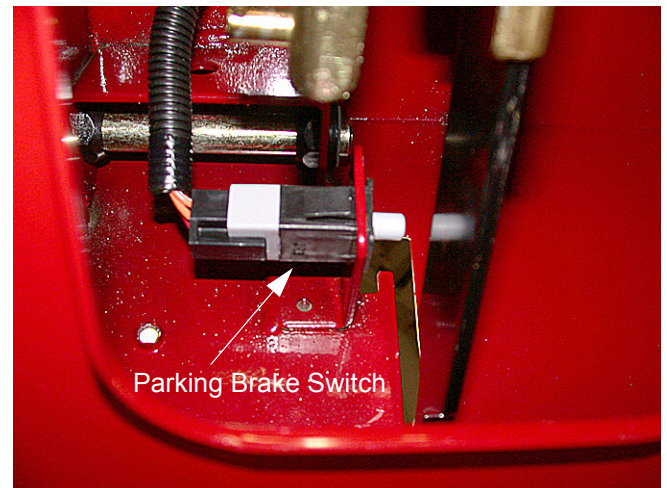

Figure 18.2
18.2. The PARKING BRAKE SWITCH is located under the seat box frame. See Figure 18.2.